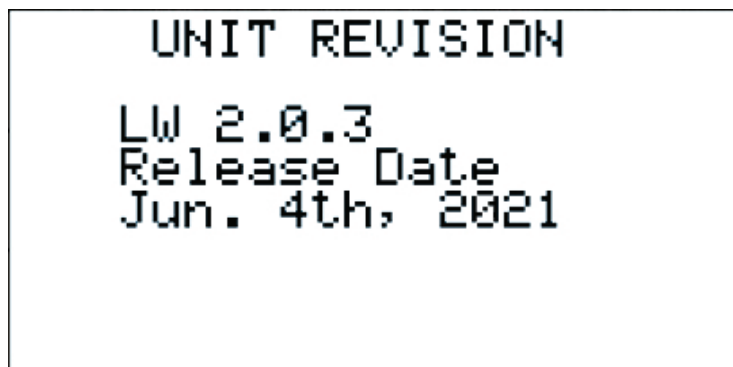

Figure 67
2.3.5 Unit Revision (Figure 67)
The Unit Revision screen shows the version of the application program that is running along with the release date of the software (Figure 67). This information should be passed to Desert Aire Service Department in the event a service call is necessary.